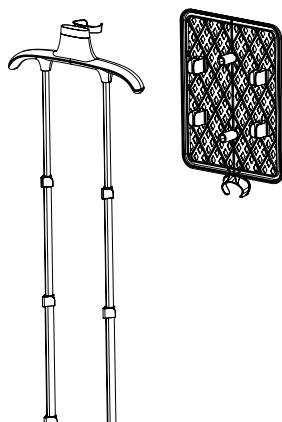

FIG 3
7. Position the board to the top smallest poles until you heard a "click" from all 4 holders. (FIG 3)